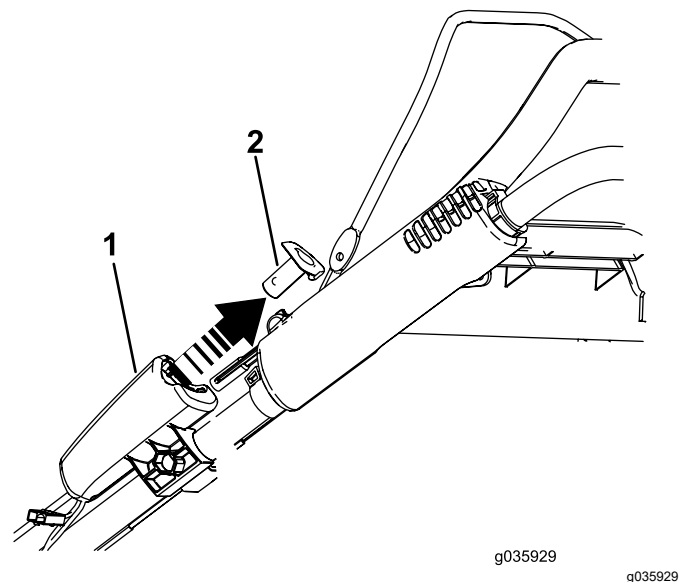

Figure 34
1. Remove the electric-start button (Figure 34).